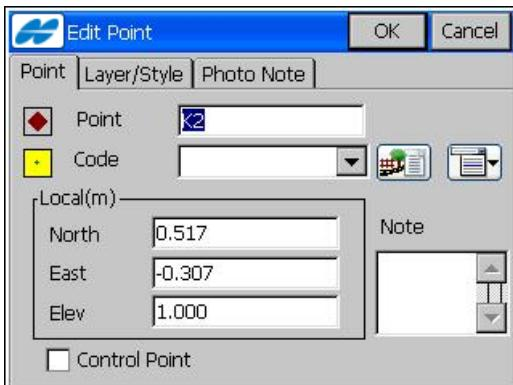

Figure 8-15. Edit Point
- **Accept** – opens the *Edit Point* screen (Figure 8-15 on page 8-16) to save the new point.
The *Edit Point* screen (Figure 8-15 on page 8-16) saves the resection point in the job.